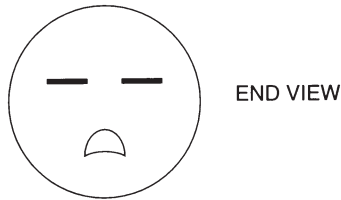

FIGURE 1-18 A 220 V power plug.
7. If the voltage rating of the unit as indicated on the nameplate were 220 V at less than 15 amperes, the plug would be similar to the ones shown in Figures 1-18 and 1-19.